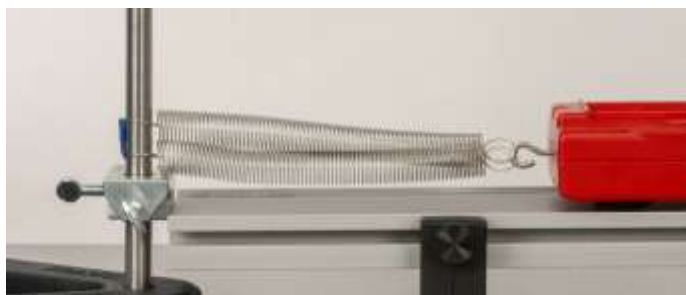

Figure 4: Springs in Parallel
8. In the next step, you will measure the spring constant for pairs of springs in parallel. See Figure 4. Before proceeding, make a prediction: Will the effective spring constant for two springs in parallel be larger or smaller than the spring constant of either single spring? Explain your reasoning.
1. Connect Spring 1 and Spring 2 in parallel, between the 45-cm rod and the cart's hook, as shown in Figure 4.